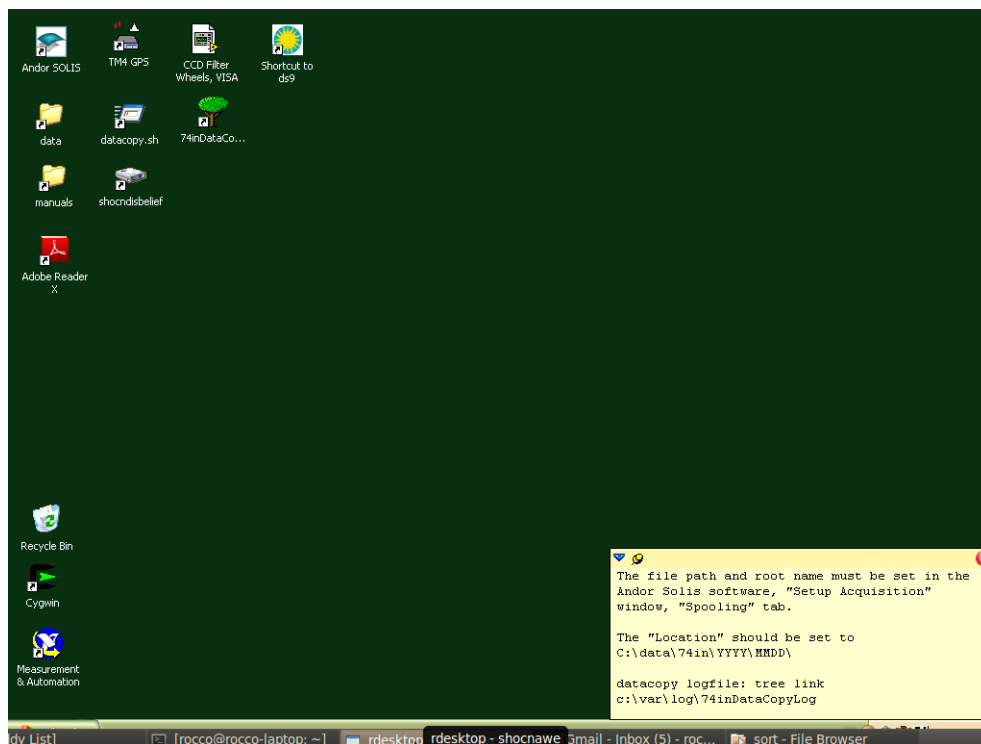
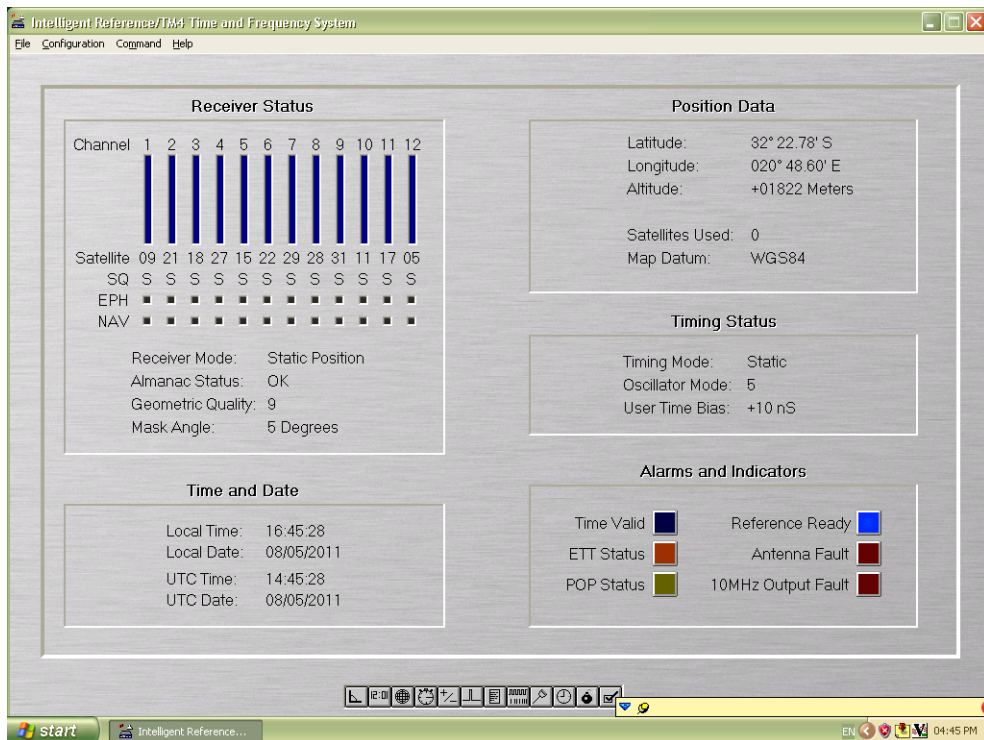

Figure A.1: SHOC desktop that appears after successful login.
Figure A.6: The GPS Start up screen.
4. A screen as shown in Figure A.1 will now appear.
- (b) Open the GPS software by clicking on the icon labeled “TM4 GPS” in Figure A.1, this will open a window as shown in Figure A.6.
1. As shown in Figure A.1, double click on the “datacopy.sh” icon and wait for the program to finish running (indicated by the window that opens automatically, closing again).
In Figure A.6, the start up window of the GPS software is shown. This window is divided into five boxes. The top left “Receiver Status” box shows the signal strength received from each of the satellites that is currently being used. The receiver mode is also displayed, and should be set to “Static Position” to ensure the highest timing accuracy. Below this, the “Time and Date” box displays the the local and UTC time. The “Local Time” should be set to South African Standard Time (SAST), where $\text{SAST} = \text{UTC} + 2$. This can be checked/changed by clicking on the label “Local Time” and entering the correct offset from UTC. The Local date is changed similarly.
The “Position Data”, box shows the latitude, longitude and altitude above sea level of the observer. Default values displayed in Figure A.6 are for the 1-meter telescope at Sutherland. In the case that these values do not display, they can be re-entered using the values given in Table A.8.